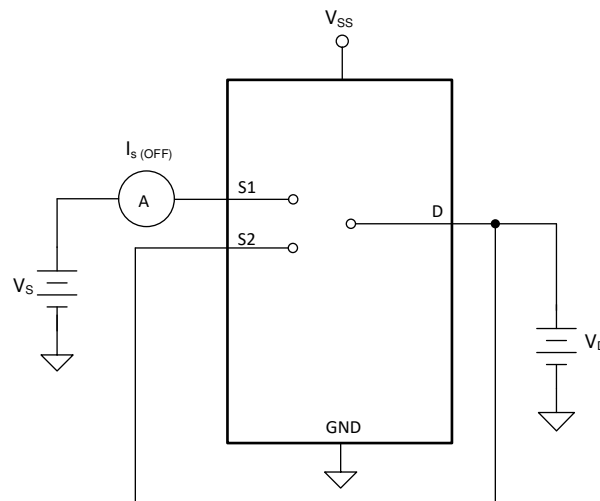

**Figure 7-1. On-Resistance Measurement Setup**
The on-resistance of a device is the ohmic resistance between the source (Sx) and drain (D) pins of the device. The on-resistance varies with input voltage and supply voltage. The symbol  $R_{ON}$  is used to denote on-resistance. Figure 7-1 shows the measurement setup used to measure  $R_{ON}$ . Voltage ( $V$ ) and current ( $I_{SD}$ ) are measured using this setup, and  $R_{ON}$  is computed with  $R_{ON} = V / I_{SD}$ :